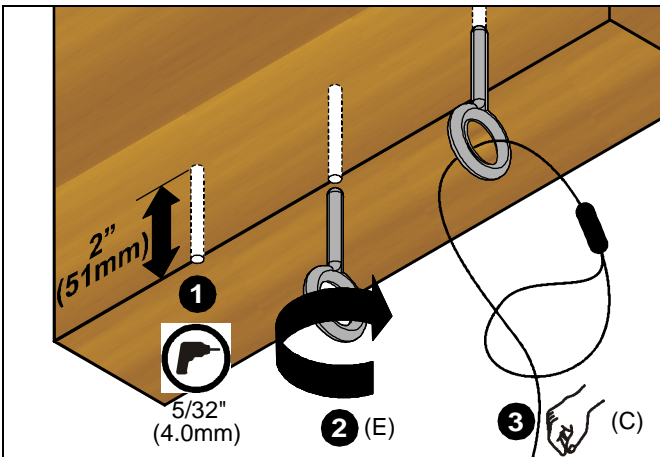

Figure 8
- Drill 5/32" (4.0mm) diameter x 2" (51mm) deep hole at each marked cable anchor support location. (See Figure 8) Remove debris from hole.
- Fully thread eye lag (E) into each hole. (See Figure 8)
- Route end of cable (C) through eye lag (E) and then through cable loop. (See Figure 8) Repeat for remaining support locations.